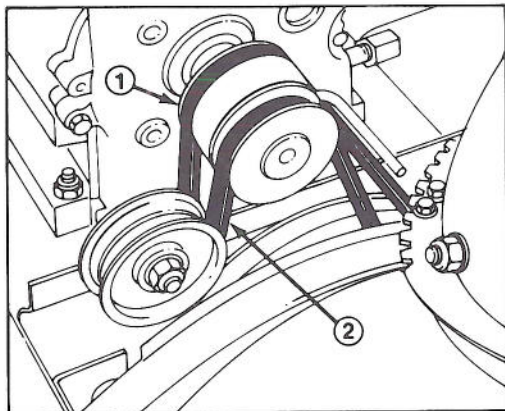
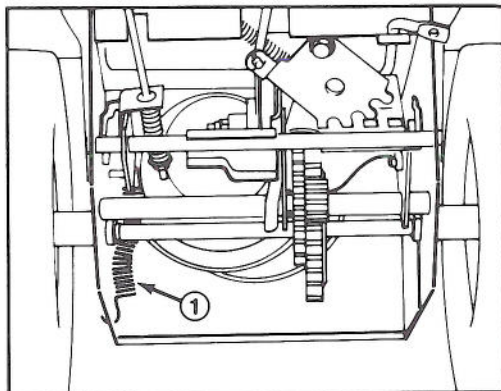

Figure 24
Figure 25
When auger/impeller drive belt (Fig. 24) becomes worn, stretched, oil-soaked, or otherwise defective, belt replacement is required.
4. Install new belt around large auger/impeller pulley (Fig. 24). Next, loop belt over engine pulley, making sure that belt is on inside of idler pulley and wire belt guide (Fig. 24).
4. Tip snowthrower onto auger housing and block it so it cannot fall. Remove rear shield and disconnect spring from side plate (Fig. 25).
5. Set unit upright and remove traction drive belt from engine pulley and large traction pulley (Fig. 24).
6. Install new belt around large traction pulley (Fig. 24). Next, loop belt over engine pulley, making sure that belt is on inside of traction idler pulley and wire belt guide (Fig. 24). Tip snowthrower onto auger housing, block it and hook spring onto side plate (Fig. 25). Replace rear shield and set unit upright.
7. Replace auger/impeller drive belt: refer to Replacing Auger/Impeller Drive Belt, item 4-5.